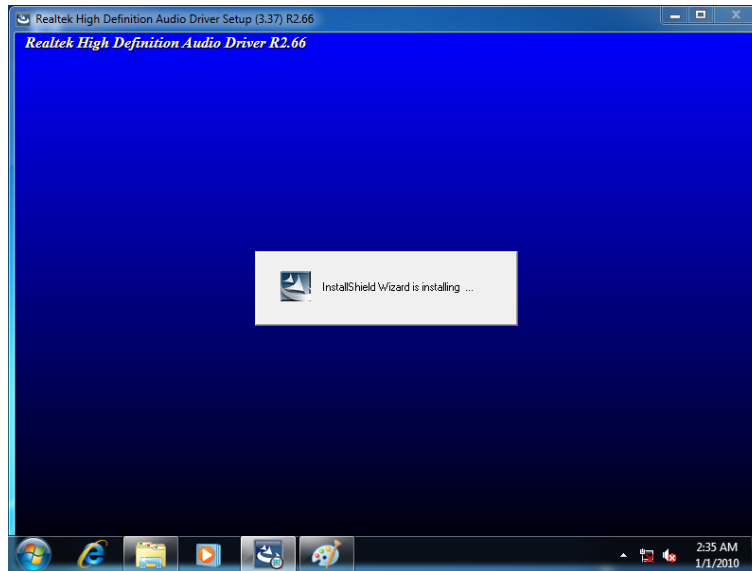

Figure 6-15: Audio Driver Installation
- Step 7:** The program begins to install. See **Figure 6-15**.